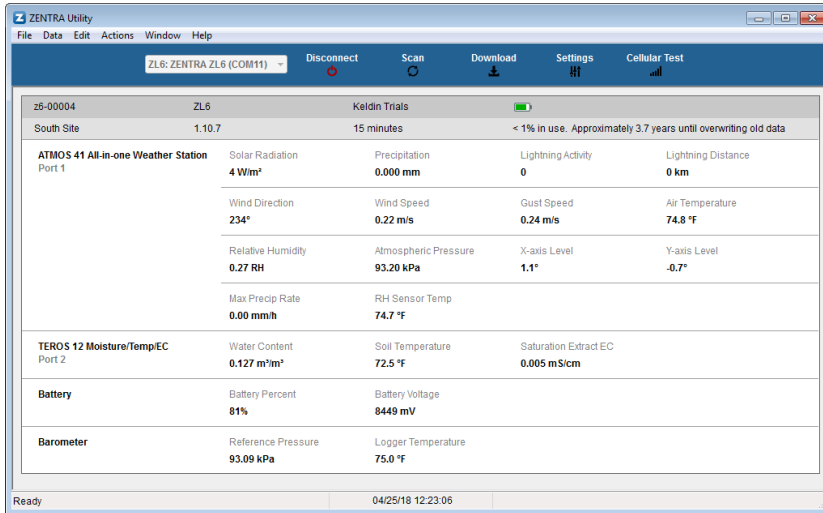

Figure 2 ZENTRA Utility showing a connected ZL6 and its instantaneous measurements
3. Click the **Connect** button next to the **COM** port dropdown menu (Figure 2).
Once successfully connected, ZENTRA Utility displays the instantaneous sensor measurements from the ZL6 (Figure 2).